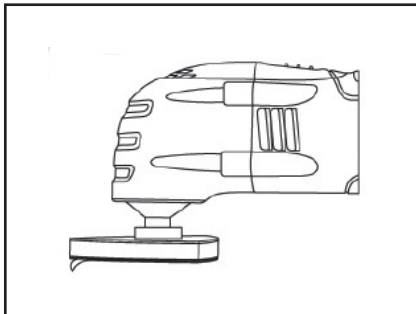

Fig. 4
3. To remove the sandpaper, simply peel the sandpaper way from the hook & loop pad (Fig.4).